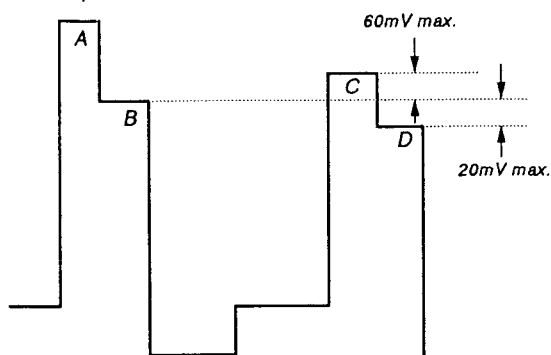

Fig. 14
- 4) Using **[R-Y LEVEL NTSC 358]**, adjust so that the tops of the waveform line up as in the diagram below. (Fig. 14)